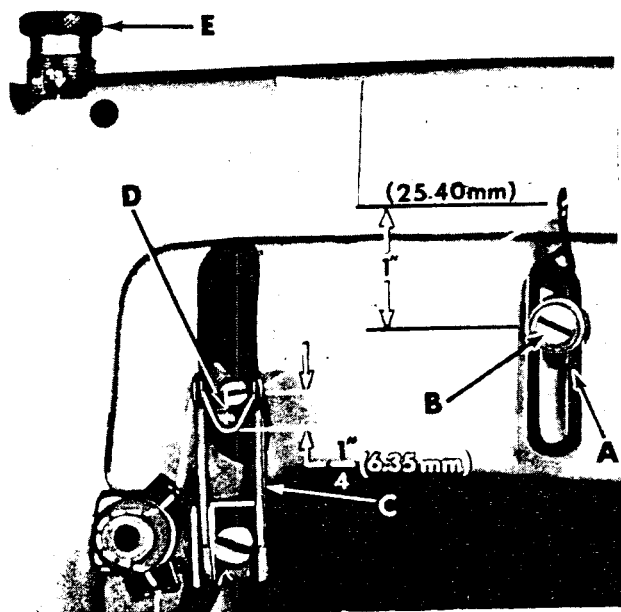

Fig. 17
Set the needle thread frame eyelet (A, Fig. 17) 1 inch (25.4 mm) above the center of the mounting screw (B).
The "U" shaped eyelet (C, Fig. 17) should be set to allow the spreader thread to engage the bottom of the needle lever eyelet (D) by 1/4 inch (6.35 mm). Raising the eyelet makes a looser cover thread, lowering same makes a tighter cover thread.
Regulate the presser spring regulating screw (E, Fig. 17) so that it exerts only enough pressure on the presser foot to feed the work uniformly when a slight tension is placed on the fabric. This is the knurled screw, located directly behind the needle bar in the head of the machine. Turning it clockwise increases the pressure, counterclockwise acts the reverse.